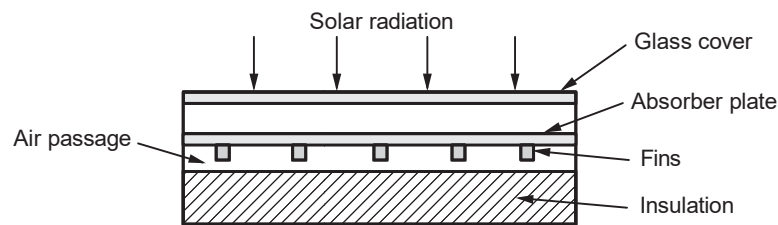

Fig2.7.3 Schematic of solar heater
- Fig. 2.7.3 show the schematic of solar heater.